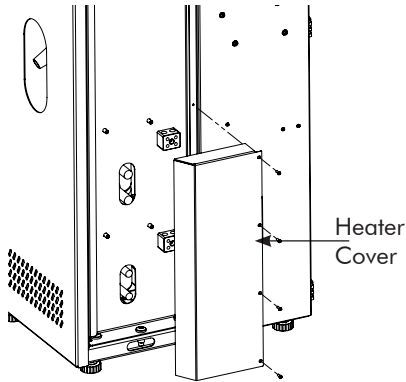

Fig 19.1
1. Open the Heater Connection Cover (fig. 19.1).